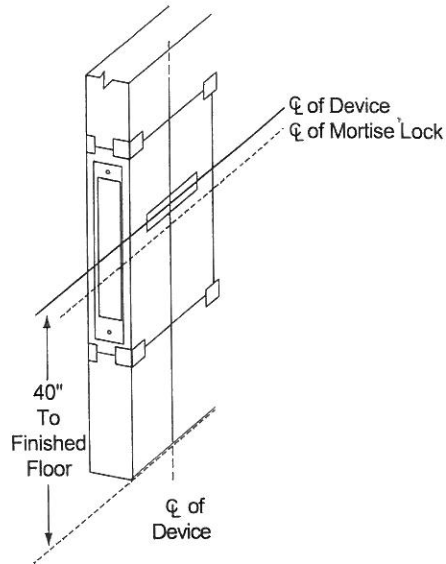

Figure 1-2
2. Mark the center line of device by drawing a line across the door 40" above finished floor. (See Figure 1-2.)